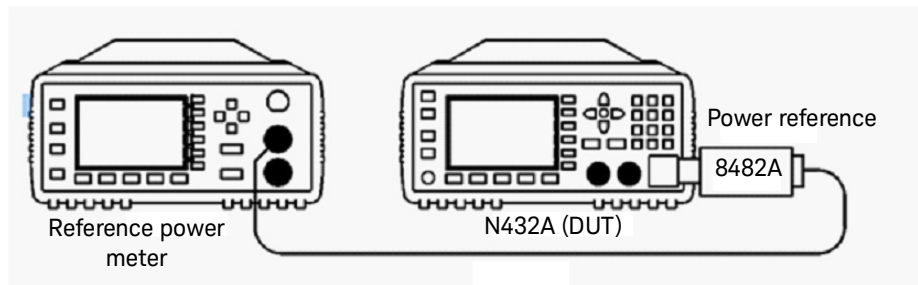

Figure 3-2 Connecting 8482A to N432A for 1 mW power reference level test
- 8 Disconnect the 8482A sensor from the reference power meter and connect it to the N432A (referred to as the DUT) as shown in Figure 3-2.